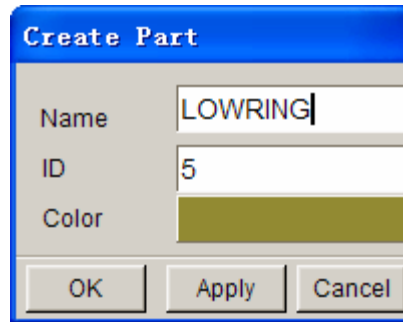

Figure 39: Create part dialog box
3. Enter **LOWRING** at the input field of *Name* in the **Create Part** dialog box illustrated in Figure 39. Click **OK** to create the part.